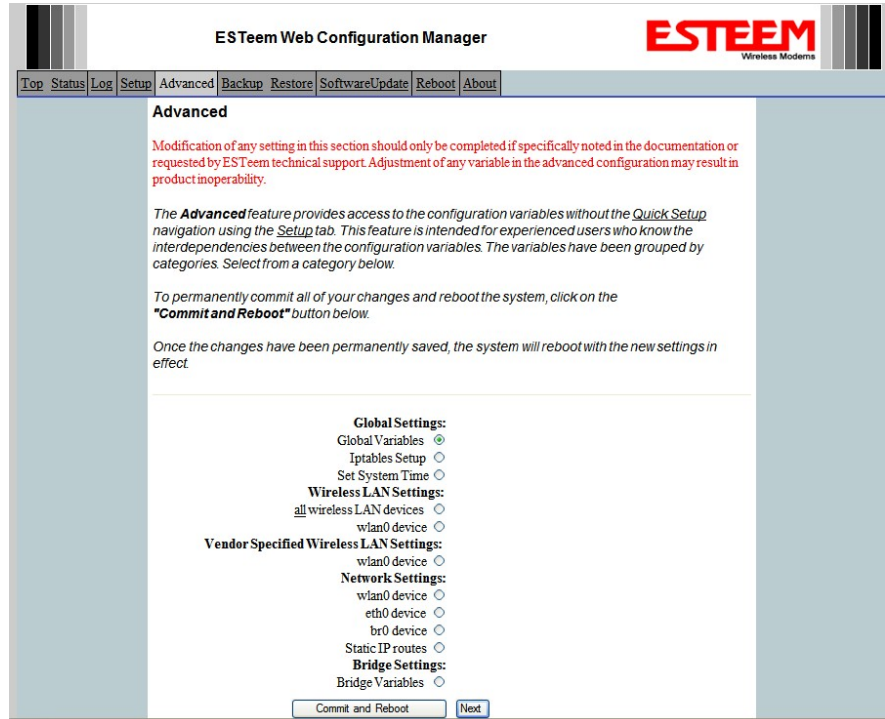

Figure 9: Advanced Features Screen
1. Select **Advanced** from the top Menu, then **Wireless LAN Settings>wlan0 device**. Press the **Next** button (Figure 9).